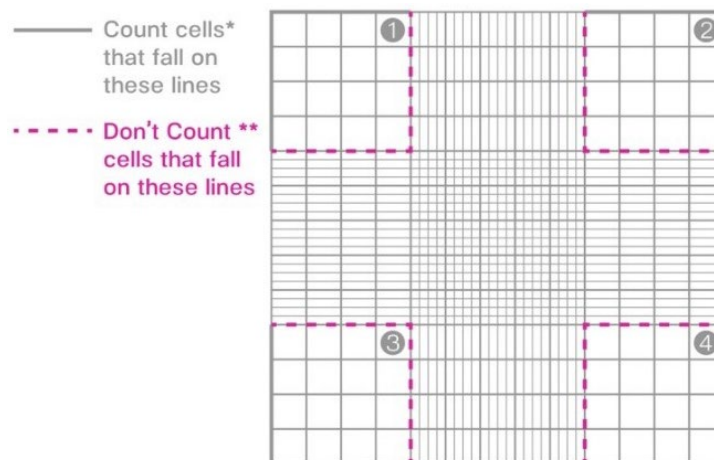

Figure 6. Example hemocytometer and cell counting.
- Count both viable and non-viable cells in each quadrant of the hemocytometer (see Figure 6).